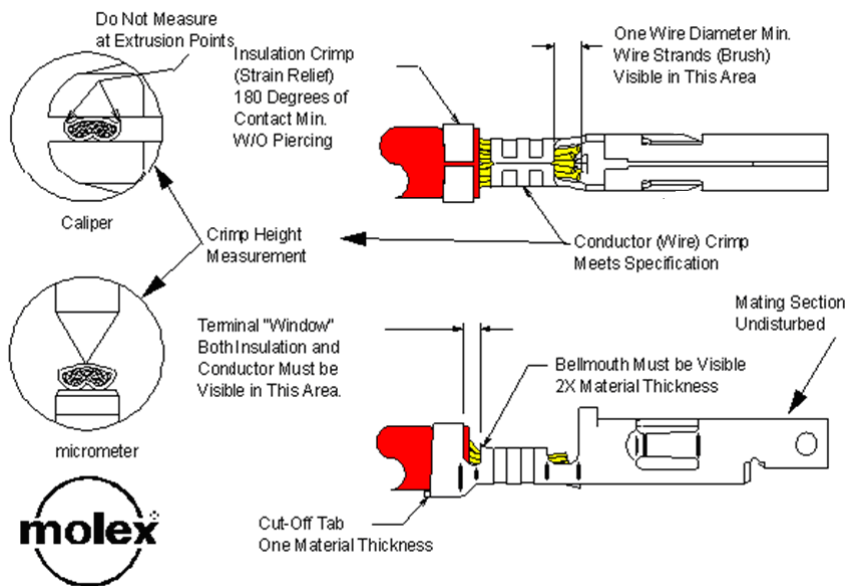

FIG. 9
5.1 An example of a properly performed crimp is seen below (Fig.9) :